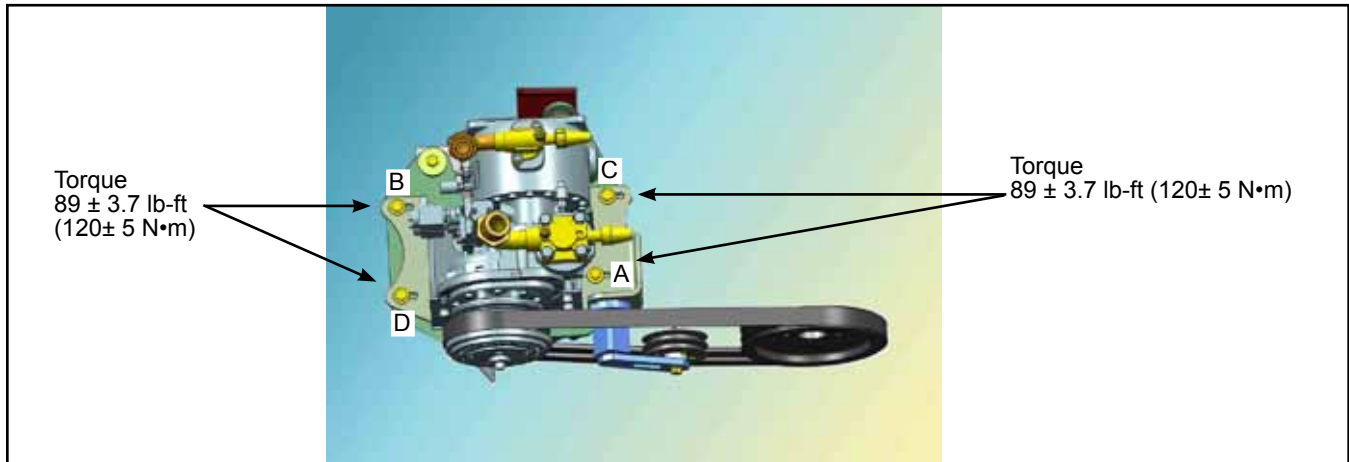

Figure 7 - A/C Compressor Plate Retaining Bolts Torque and Sequence
- 1.15. Tighten the compressor plate nuts to the specified torque in the sequence (A to D) described in Figure 7.